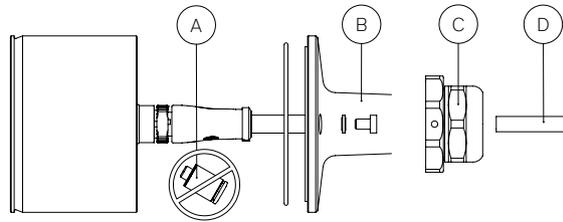

Figure 7
**!** For mounting the camera head to the holder of the flex arm mount (Fig. 7-B), the plug-in connection for the sealing air (Fig. 7-A) on the rear of the camera head will need to be removed. It is outfitted with an internal hexagon drive.
The sealing air tube (Fig. 7-D) is inserted into the 6 mm hole of the sealing in the cable gland (Fig. 7-C) for all versions of the flex arm mount. An insertion depth of approx. 20–30 mm is sufficient; the sealing air tube does not have to be pulled through the flex arm mount to the camera head. The sealing air flows freely through the entire flex arm mount to the camera head. The sealing air tube is fixed in place by clamping the cable gland closed.